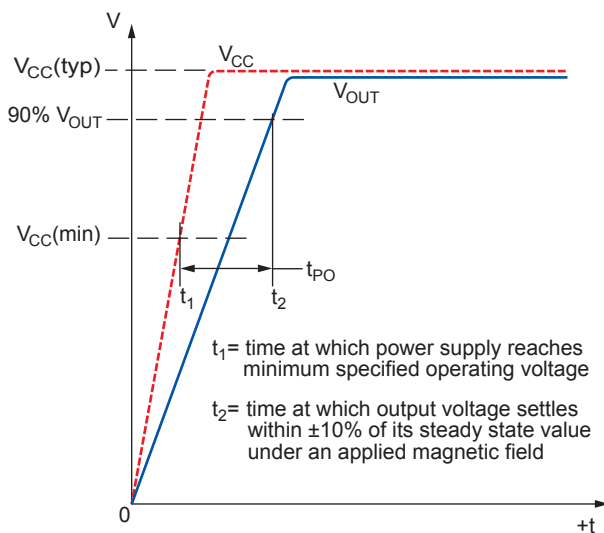

Figure 1. Definition of Power On Time,  $t_{PO}$
**Power-On Time.** When the supply is ramped to its operating voltage, the device output requires a finite time to react to an input magnetic field. Power-On Time,  $t_{PO}$ , is defined as the time it takes for the output voltage to begin responding to an applied magnetic field after the power supply has reached its minimum specified operating voltage,  $V_{CC}(\text{min})$ , as shown in figure 1.